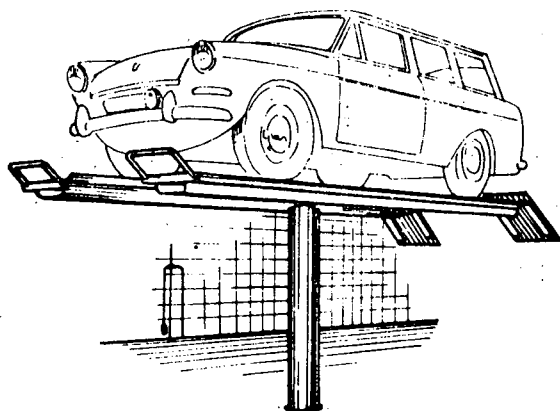

Fig. 1
Pneumatic-oil lift (fig. 1). These lifts are made up of a cylinder (fig. 2), inside which a column or piston (2), with a finely polished surface is moved.